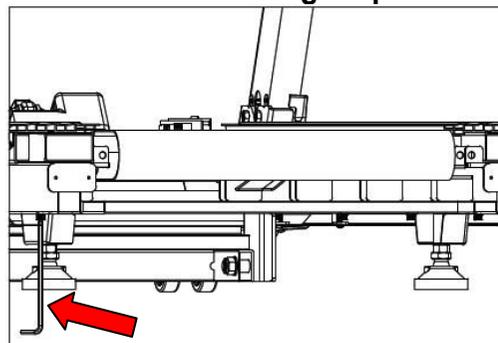

Figure 4.6.2
- 3) As shown in Figure 4.6.2, use the L-shaped hex wrench to loosen the 8 screws of the retaining strip.**